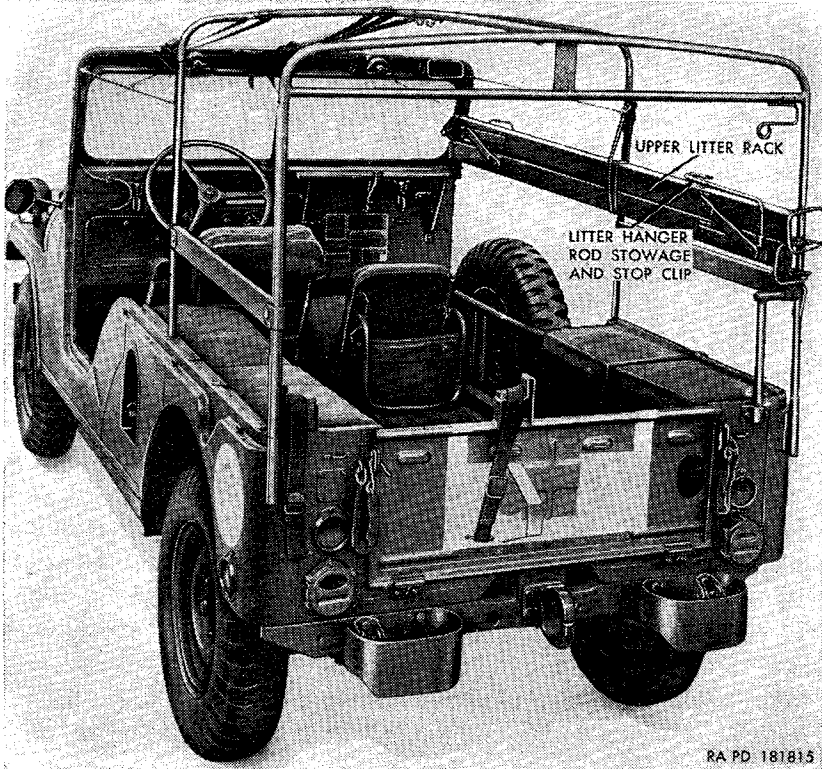

Figure 21. Upper litter rack (M170)—Stowed position.
d. *Stowing the Upper Litter Rack.* Lift the upper litter rack hanger off the center-rear top bow and push hanger forward until it is engaged in the litter hanger rod stowage and stop clip (fig. 21). Fold the rear